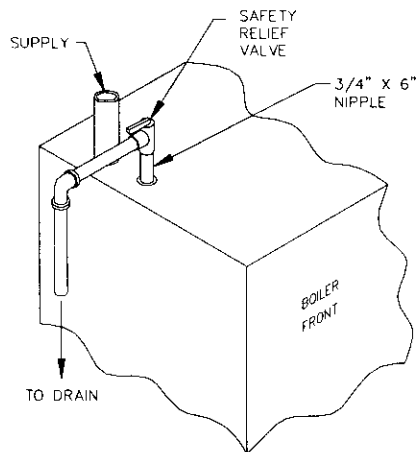

Figure 7: Safety Relief Valve Hook-Up Installation with Air Elimination in System Piping
2. If air elimination is not required at the safety relief valve tapping, install valve and piping as shown in Figure 7.